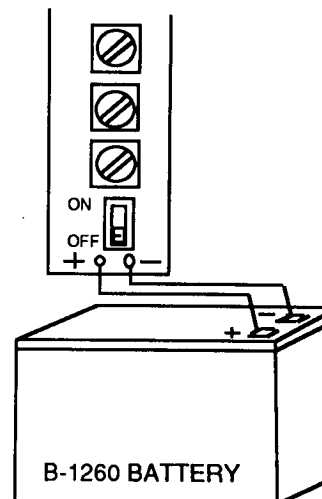

FIGURE 5.
- Verify that the master power switch is turned off. (Figure 5).